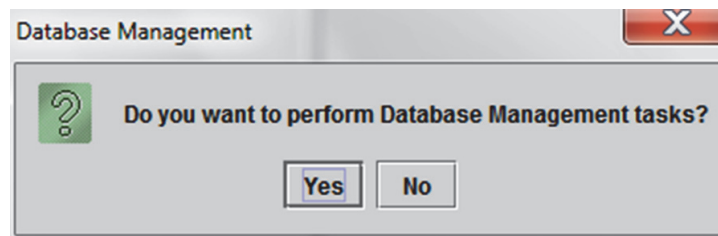
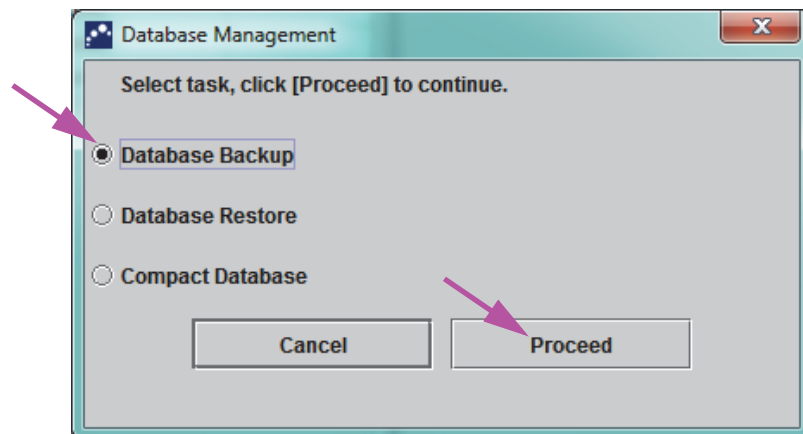

Figure 5-6. Database Management Dialog Box
Figure 5-7. Database Management Dialog Box
1. If the **Database Management Reminders** box on the System Configuration dialog box (see Figure 2-39) is **not** checked, the Database Management Dialog Box (see Figure 5-6) will not appear and no action concerning the database will be required. The software will continue to load and you can skip to Section 5.2.3.2 to continue the startup sequence.
2. If the **Database Management Reminders** box on the System Configuration dialog screen (see Figure 2-39) is checked, the Database Management dialog box (see Figure 5-6) will then appear on top of the GeneXpert Dx system window asking if you want to perform Database Management tasks.
- A. If you click **No** on the Database Management dialog box (see Figure 5-6). The GeneXpert Dx software continues to load and you can proceed to Section 5.2.3.2.
- B. Click **Yes** in the Database Management dialog box (see Figure 5-6) and you will be asked to select the task to be performed (see Figure 5-7).
Depending on the user's privileges, all (or any) of the four options in the Database Management dialog box may not be visible. See Figure 5-7.
4. Click the **Proceed** button (see Figure 5-7) to start performing the desired database management task.